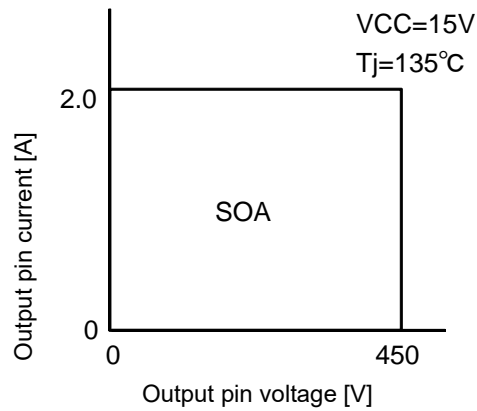

FIGURE 4.1.1 SOA
The current and voltage at output pins must not be outside the SOA shown in FIGURE 4.1.1.
Delay time to turn output IGBT off (T_{ref1} , T_{ref2}) and variability of V_{ref1} , V_{ref2} , R_s need to be considered, and the current must be below the derating curve of FIGURE 4.1.1.